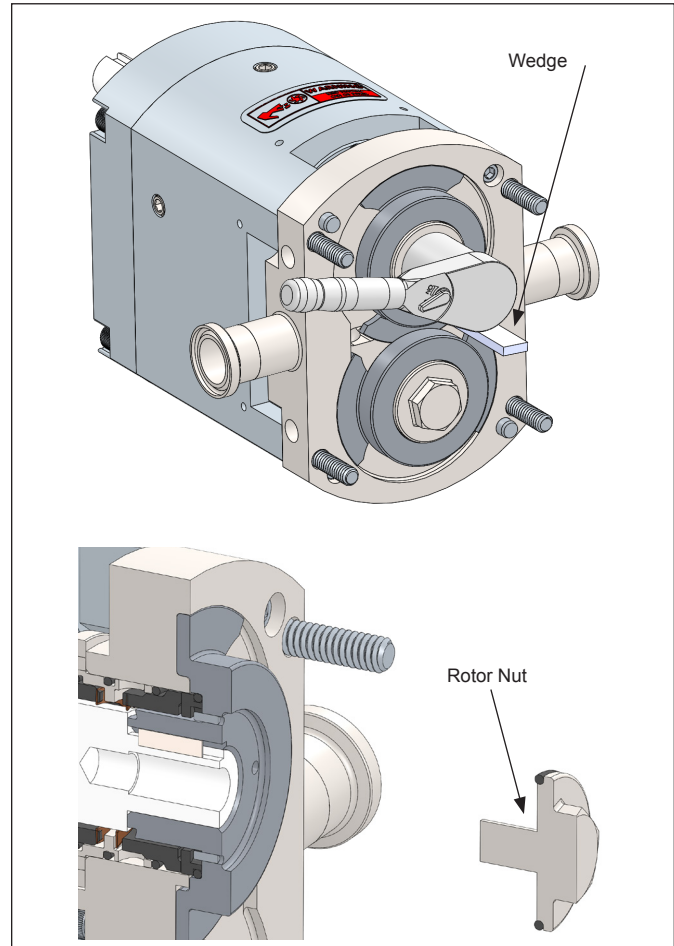

Figure 24. Rotor Removal
2. Remove the rotor nut using the appropriate size wrench and a non-metallic wedge to keep the rotors from moving (Figure 24). Unthread each nut and disassembly the nut assembly (rotor nut, Bellville washer, and retaining o-rings).